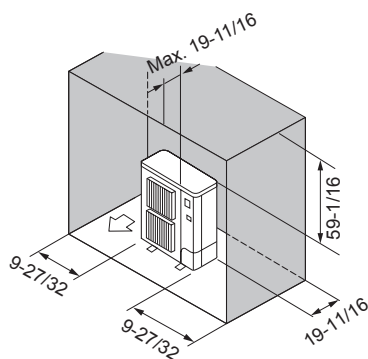

Fig. 2-10
⑥ Obstacles at rear, sides, and above (Fig. 2-10)